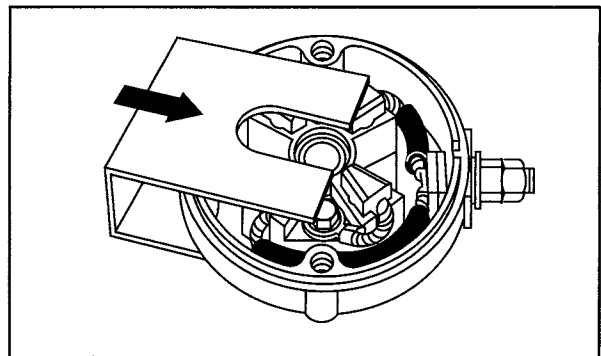

Fig. 25
2. Compress brushes and springs. Assemble brush retainer to end cap, Fig. 25.